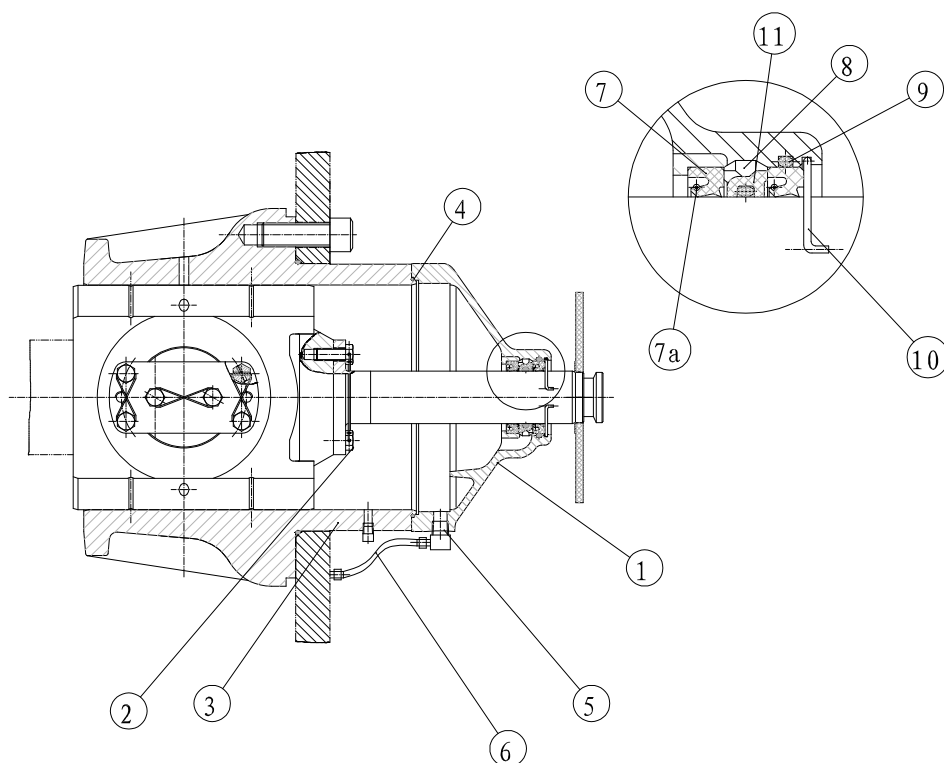

Fig. 4A
With reference to Figure 4A,remove the diaphragm stuffing box and plate(1) and rotate pump so that crosshead is at the front of the stroke, Thoroughly clean the front of the crosshead and the face of the crosshead extension rod. Insert alignment boss on crosshead extension rod into the crosshead bore and tighten the retainer bolts (2) to the following torque, 67.5-81 N.m (50-60ft.lbs) Safety wire bolt heads.